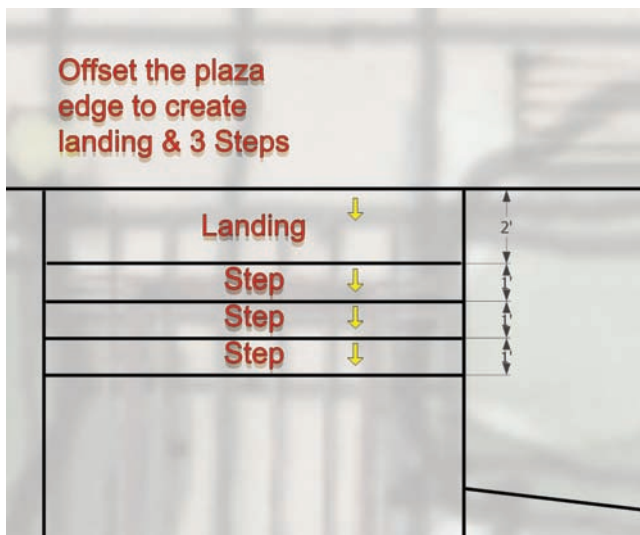

Fig. 7-17: Move/Copy the steps and landing at the bottom entry (bottom of rectangle 6).
- a. Move/Copy the edges at the plaza's bottom (rectangle 6) and (rectangle 7) east entries to create steps (Fig. 7-17).